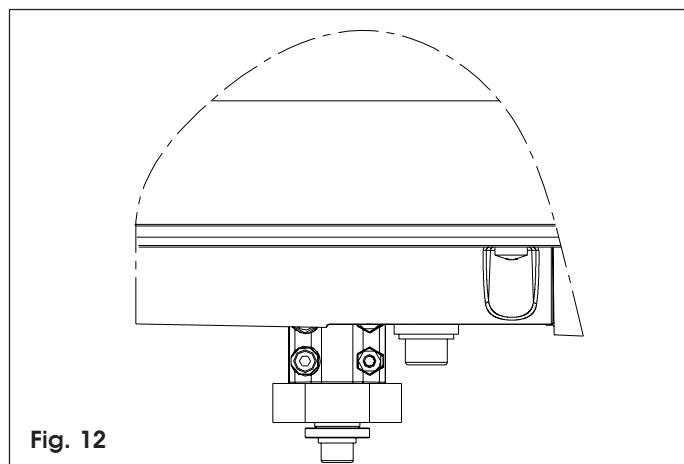

Fig. 12
- 4) Shift the stop to the lower support, as shown in fig. 12.